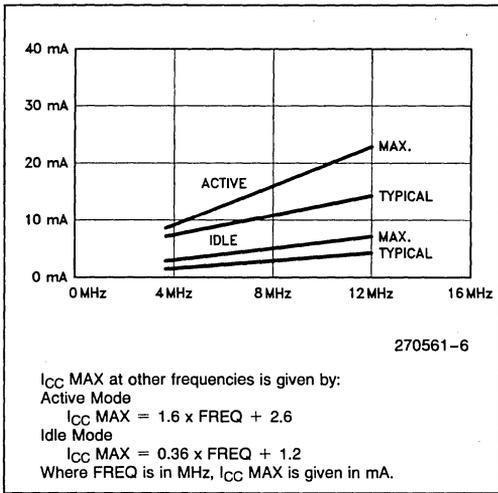

Figure 6. I_{CC} vs Frequency.
- See Figures 6 through 9 for I_{CC} test conditions.